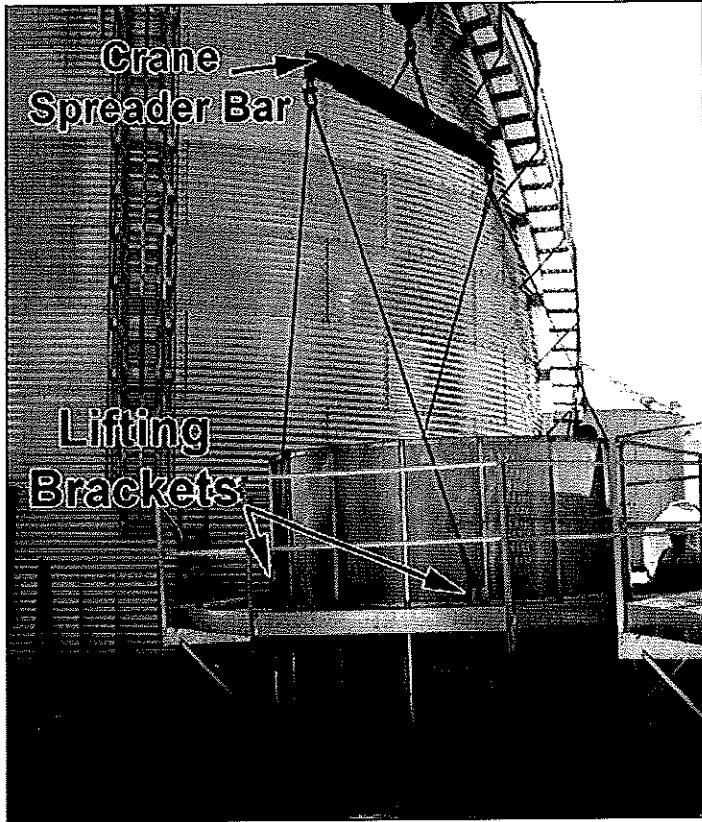

Figure 18
- Attach crane spreader bar hooks to lifting brackets bolted to the center outer channel rings of the third and fourth double screen section on Tower Dryer models 10520-10840 (fourth and fifth screen section on Tower Dryer models 101050 and 101275) and place them onto the second screen section using drift pins to align the holes in the channel rings. **See Figure 18.** Use 5/16 x 3/4" (7.9 x 19mm.) hex washer head capscrews and whiz locknuts.